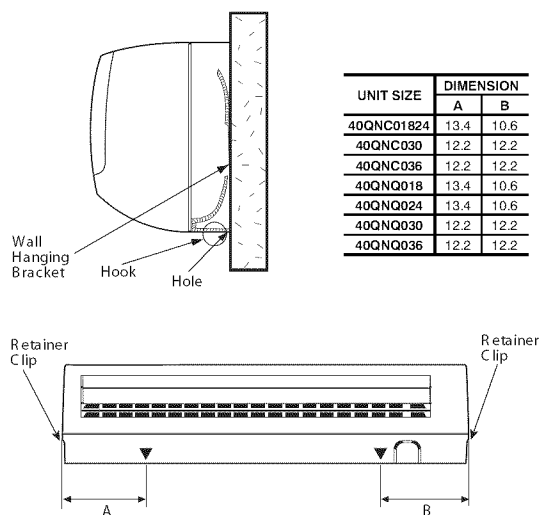

Fig. 29 - Wall Mounting Details
7. Fix the bottom part of the unit to the wall mounting bracket and push it carefully until the two bracket hooks fit into the marked places at the base of the unit until it snaps into place. See Fig. 29.